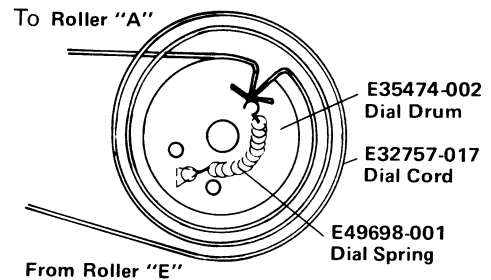

Fig. 16
2. Tie end of new dial cord to one end of dial spring. Connect other end of dial spring of bottom right eye inside dial drum. See Fig. 16.
8. Guide the dial cord over the dial drum and wind 2-1/2 turns clockwise. See Fig. 16.